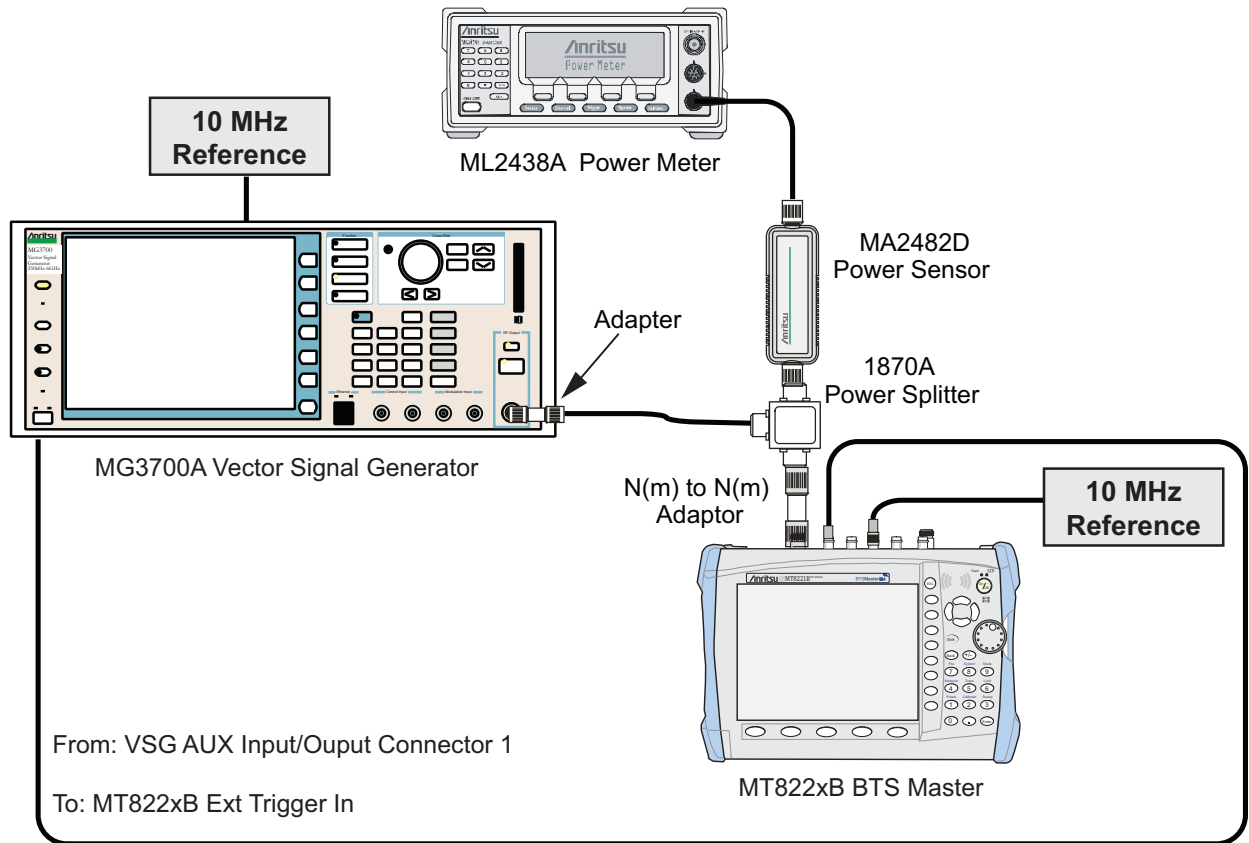

Figure 5-2. CDMA Signal Analyzer Option Verification
2. Connect the equipment as shown in Figure 5-2.
4. Set the MT822xB mode to CDMA Signal Analyzer. Press **Shift** and press **Preset** (1) to preset the MT822xB.
1. Confirm that the equipment settings are unchanged from the previous test. Refer to Figure 5-2 on page 5-13.